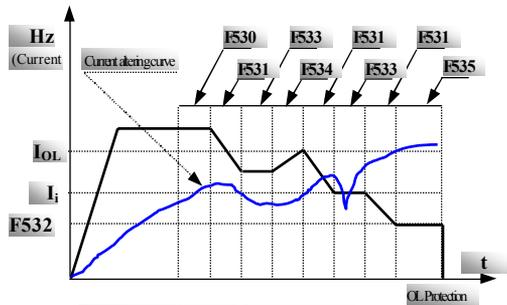

Fig 9-3 Stalling Adjusting
- Fig 9-3 indicates the process of Stalling Adjusting: